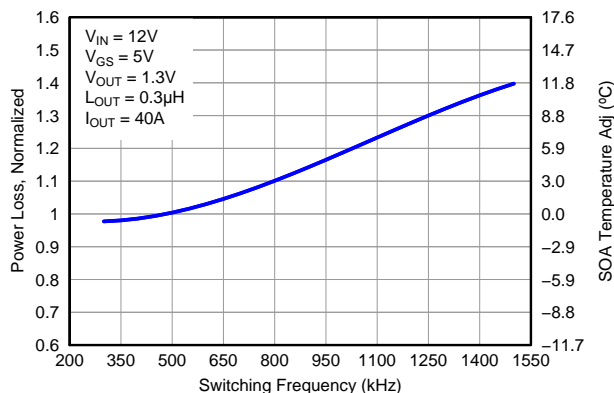

Figure 6. Normalized Power Loss vs Switching Frequency
- Normalized Power Loss for switching frequency ≈ 1.11 (Figure 6)
- SOA adjustment for switching frequency $\approx 2.8^\circ\text{C}$ (Figure 6)